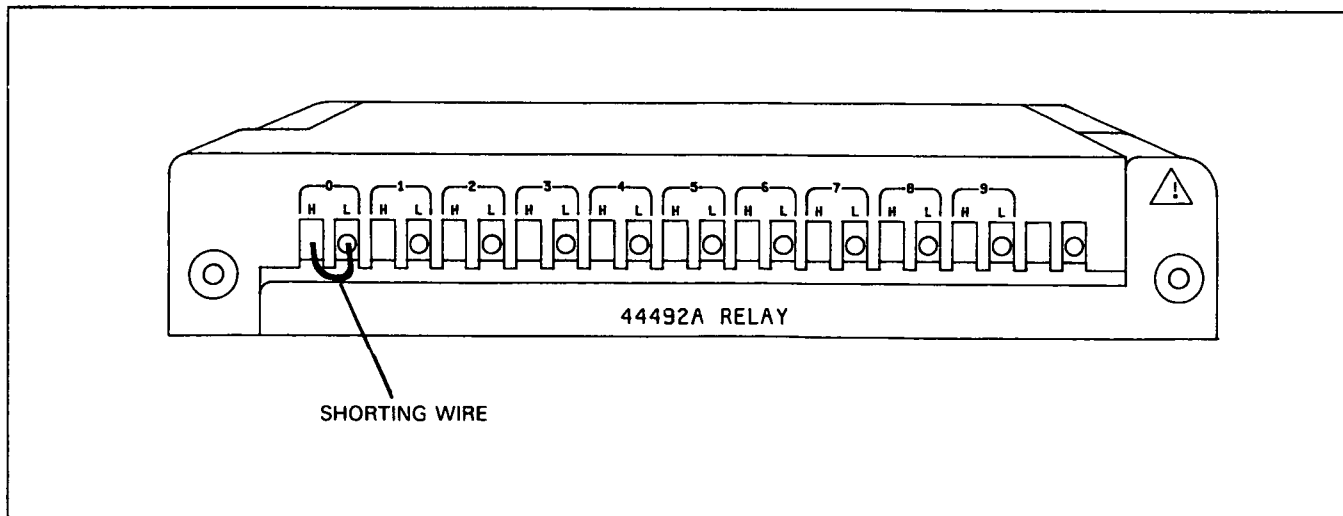

**Figure 5-5. 44492A Wiring Block Connections**
- d. Install a copper shorting wire between the H and L inputs of channel 0. Tighten the two retaining screws. (Refer to Figure 5-5 for wire connection).